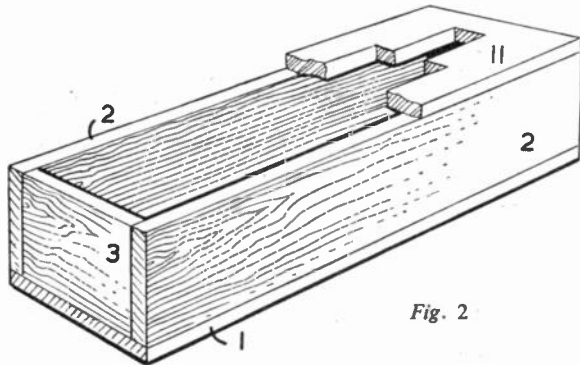

Fig. 2
The next step is to make the balancing portion. Study Fig. 2 and you will see that it comprises pieces (4), (5), (6), (7) and (8). Glue the two pieces (4) together to form one piece and then pin or screw the balancing arms in place. The pivot points are shown clearly on piece (4). Whether you use pins or screws for this purpose you must be careful to make
one on each side, and then pivoted to the ends of the arms (5) and (6) as shown in Fig. 2.